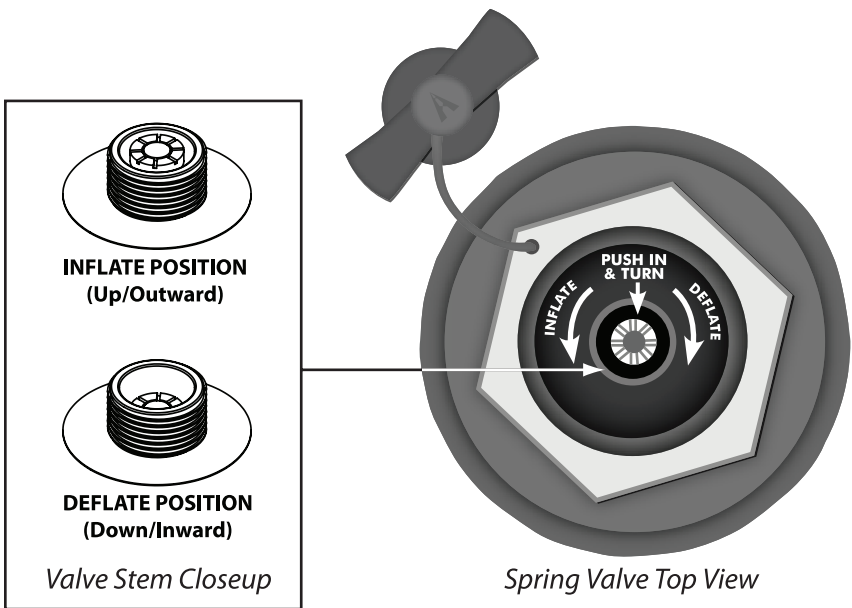

Figure 1. Inflate/Deflate Spring Valve
1. Locate chamber 1. Unscrew cap and check that plunger valve is in the inflate position. Inflate Chamber 1 until firm to the touch (2.25 psi **ONLY**). (See Figure 1 on Pg 10.)
2. Proceed to Chamber 2. Inflate chamber 2 until firm to the touch (2.25 psi **ONLY**). Close caps on chambers 1 and 2 tightly. (See Figure 1 on Pg 10.)